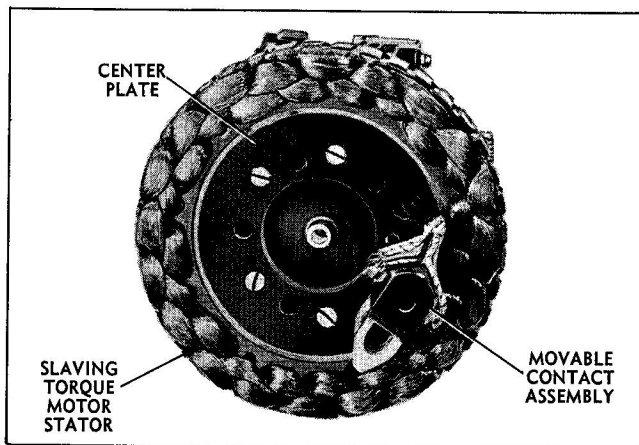

Figure 2-14. Front View of Slaving Torque Motor Stator
(3) Remove four hexagon nuts which secure the slaving torque motor stator to the gyro case. (See figure 2-14.)
(4) Lift the stator winding off the gyro case. The liquid level and movable contact assemblies come off with the stator winding.